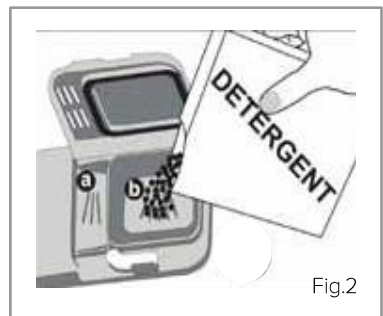

Fig.2
2. Add the required amount of detergent. The main detergent compartment “b” (figure 2) has lines to allow for specific amounts of detergent. These are marked at either 15 cm³ or 25 cm³, to be used depending on how dirty the dishes are. If your dishes are in need of an intensive wash, then add 5 cm³ of detergent into the prewash section of the compartment “a” (figure 1).